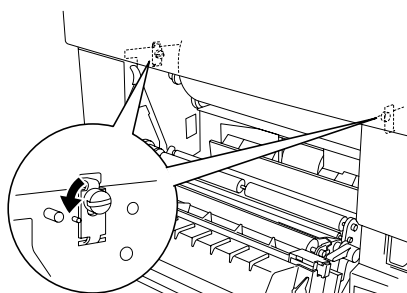

Fig.6-14
- 3) Open the rear access cover and slacken the fusing unit securing screws (2 pcs.). (Fig.6-14)